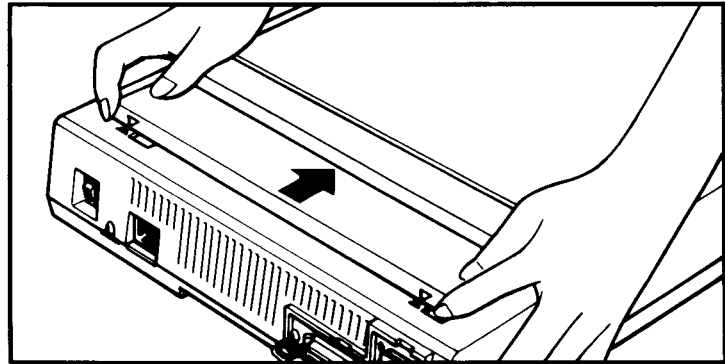

Figure 4-2. Pushing the Cover Forward
1. Unplug ScanJet's power plug. Push the copyboard cover in the direction of the arrow until it stops. See Figure 4-2.